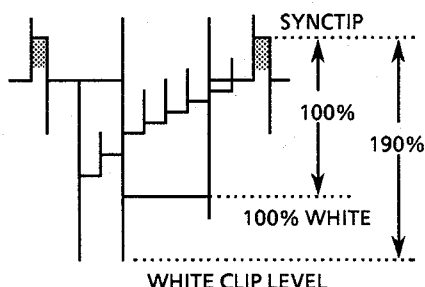

Figure 5-5.
1. Connect a oscilloscope to pin (48) of IC201 and GND.
3. Make sure that the overshoot of the video signal is clipped at 190% as shown in Figure 5-5.